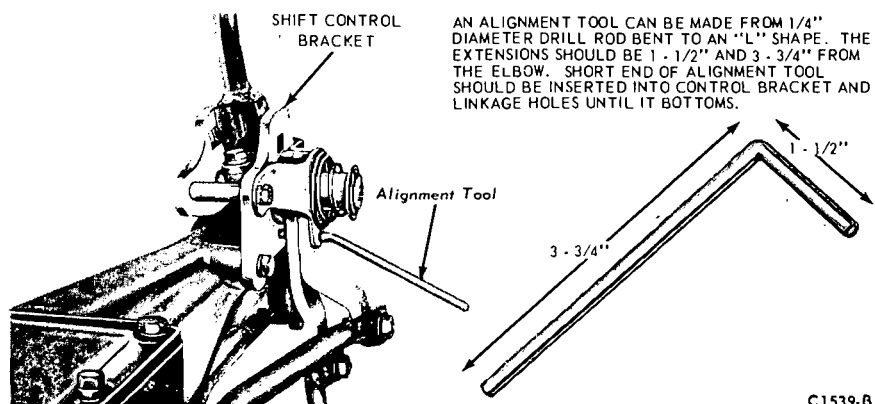

FIG. 4—Three-Speed Shift Linkage Adjustment
1. Loosen the three shift linkage adjustment nuts. Install a 1/4 inch diameter alignment pin through the control bracket and levers as shown in Fig. 4.